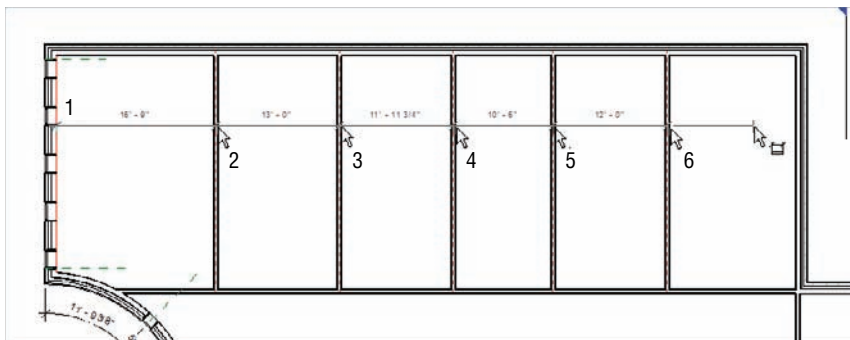

FIGURE 5.29 Adding a string of dimensions to the interior walls
12. Move your cursor to the right until you pass over the first interior wall. Notice that the core centerline of the interior is highlighted. When you see this, pick the wall, as shown in Figure 5.29.
14. Repeat the procedure until you get to the last wall (see Figure 5.29).